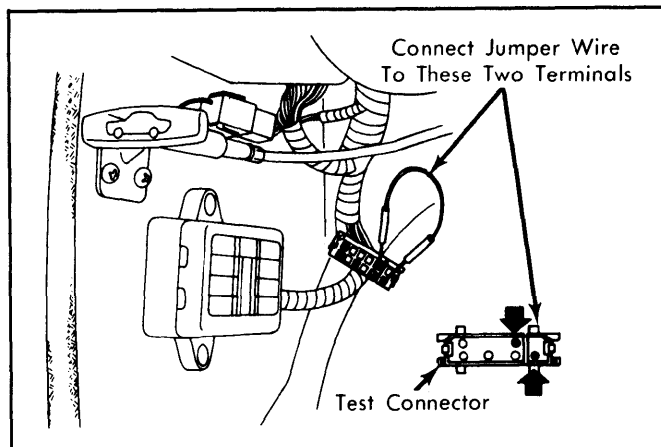

Fig. 7: Connecting Jumper Wire To Test Connector (210 With Auto. Trans.)
2) From inside vehicle, connect a jumper wire between test connector terminals. See Fig. 7. Recheck ignition timing. System is functioning properly if timing does not change with jumper wire installed. If timing changes, check for a defective thermal vacuum switch.
5) Using an ohmmeter, check continuity between test connector terminals with transmission in "R" and then again with transmission in "N". See Fig. 7.